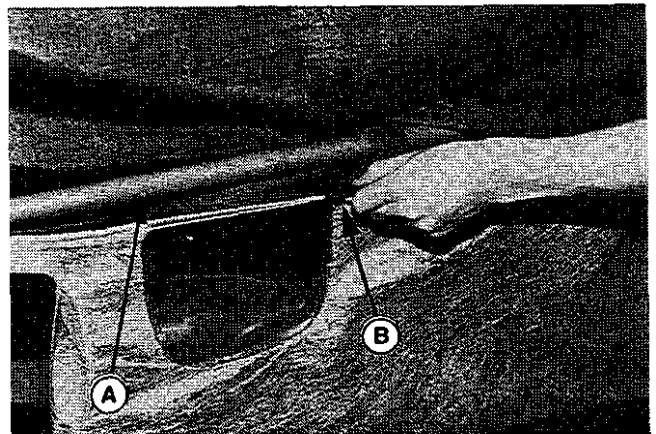

Figure 14
- Inside the cover at the front, there is a long tab with an eyelet on the end. Pull this tab over the top of the support tube (A, figure 14) and back under the support tube before threading it through the slot in the cover. This locking tab (B) secures the cover to the support tube when the cover assembly is locked into the open position for dumping.